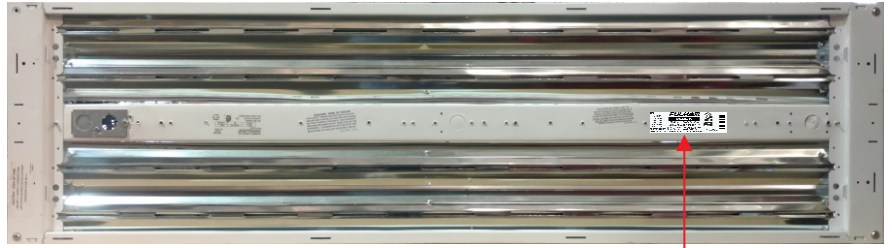

Figure 4
8. Place the provided Name Plate Label (H) on the luminaire in a readily visible location to anyone attempting to service the luminaire. See Figure 4.